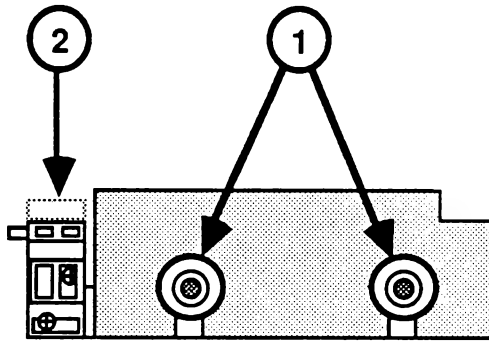

FIGURE 9
7. Orient the drive sideways, as shown in Figure 9, and remove the two Phillips screws (Figure 9, #1). Then turn the drive so that you face the other side, and remove those two screws.
8. Lift up on the sub-bezel (Figure 9, #2) and carefully slide the mechanical assembly out of its bottom shield.
2. Replace the Phillips screws (Figure 9, #1) on both sides of the drive to secure the mechanical assembly inside the bottom shield.